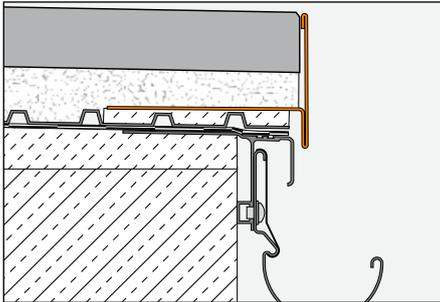

Fig. 1
### Installation with self-supporting pavers on gravel/crushed stone beds with BARA-RT (Fig. 1)
3. If using BARA-RT as a gravel retaining edge (Fig. 1), the loose gravel should reach just below the upper edge of the vertical profile leg, depending on the thickness of the covering. Next, place the concrete pavers loosely on the levelled gravel bed.